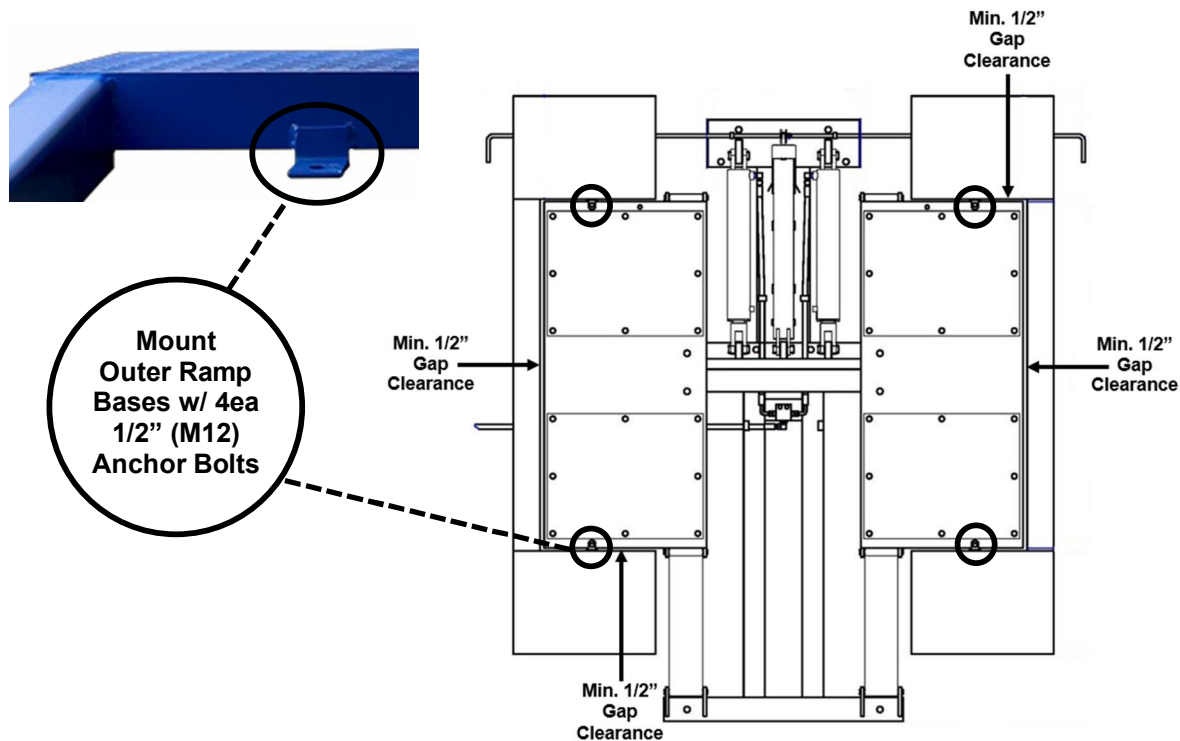

Fig. 11
- 1) The outer ramp bases should be positioned with approx. 1/2" gap clearances around the pad lift platforms for both front, back & sides. **Fig. 11**
- 2) Before drilling 1/2"(M12) anchor bolt holes to secure outer ramps bases, raise & lower the pad lift through one cycle to ensure there is adequate 1/2" clearance between the ramps and the pad lift. **Fig. 11**.